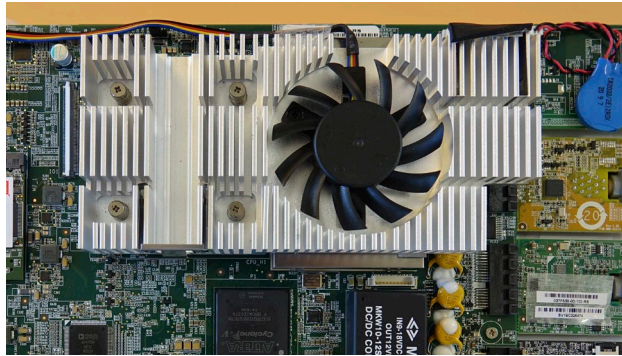

Figure 25 Install the fan
- e) Install the new fan with the cable pointing towards the upper edge of the displaying unit (Figure 25)